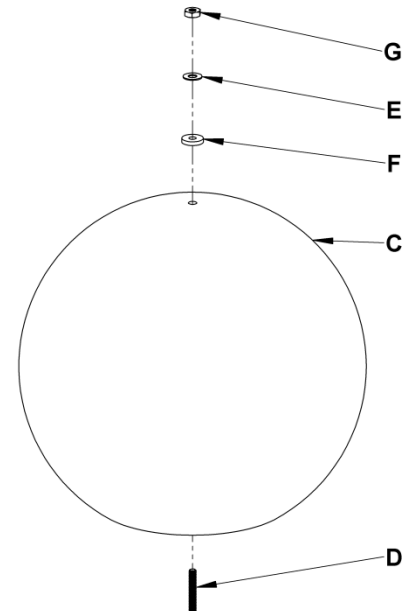

Figure 1
To Install Bulb & Glass (Figures 1 & 2)
2. Unthread cap (H) from screw (D).
3. Remove nut (G), first steel washer (E), and first rubber washer (F) from screw (D). Save for later use. *Parts ship installed.*
4. Slip screw (D) with steel and rubber washer (E&F) up through hole in glass (C).
5. Slide remaining rubber washer (F) onto screw (D) followed by steel washer (E). Thread nut (G) onto screw (D) and tighten. (Figure 1) **Note: Due to thickness variation in the glass a second longer screw has been provided with your fixture to swap out if needed with the original screw removed from the cap.**